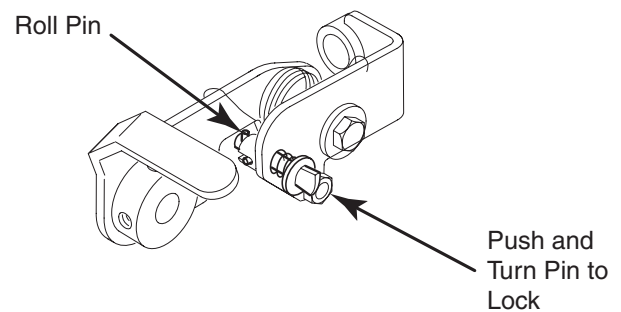

Figure 3-5. Locking Roller in Transport Position
2. Lock the Stripe Roller up in the transport position by lifting upward on the handle, push and turn the lock pin 90 degrees. The small roll pin must be out of the slot in the bracket to lock in the transport position. See Figure 3-5.